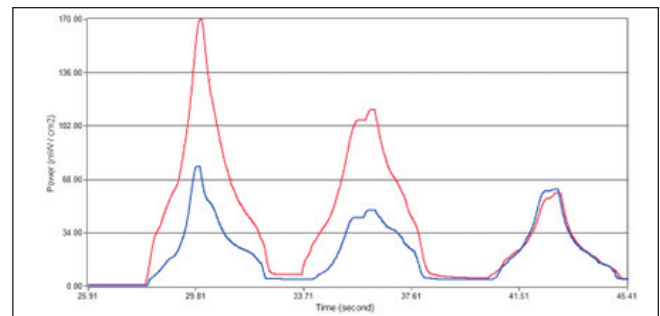

Figure 3. UVA = blue, UVV = red
- 1. The number of sources, individual performance and source type:** Figure 3 (UVA = blue and UVV = red) shows three sources with vastly different output. Based on the ratio of UVA:UVV, the first two sources are mercury-gallium bulbs and the third source is a mercury bulb. The output drops from the first to the third source.